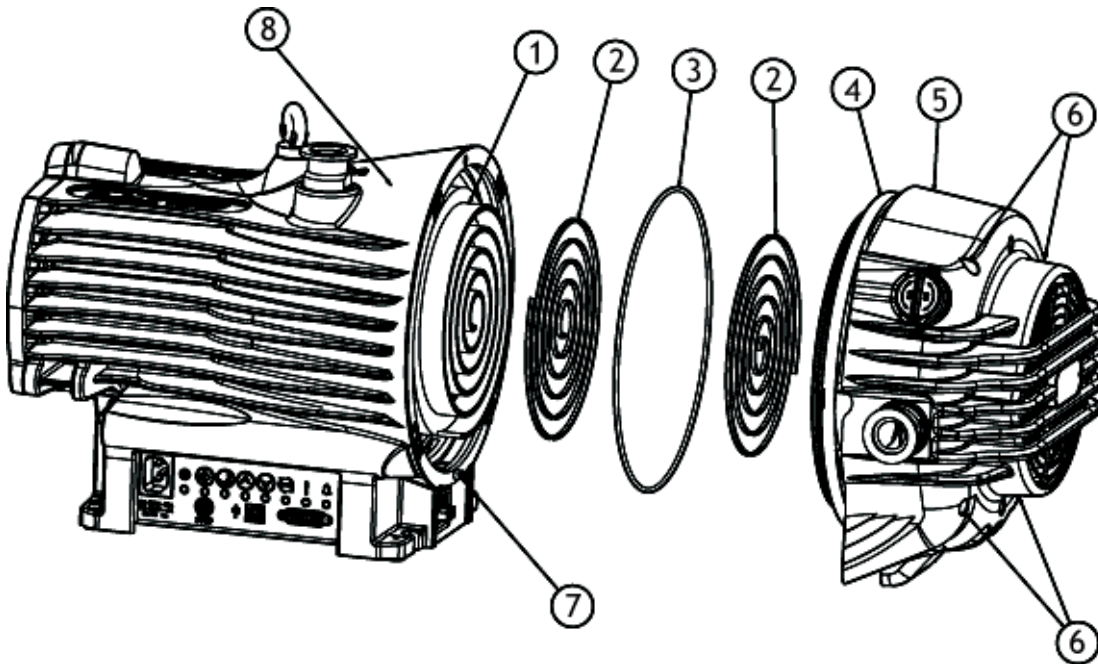

Figure 4 - Pump side views
3. Carefully separate the fan-cowl / fixed scroll assembly from the housing assembly using a suitable lever in the slots provided (Figure 4).